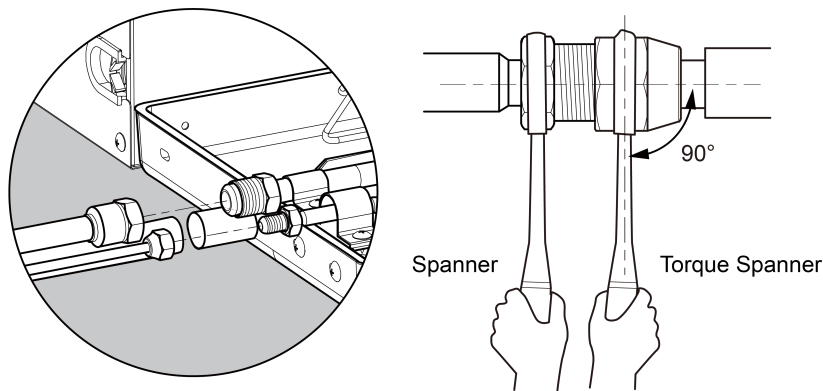

Fig.3.4.1
- (1) Before welding the pipeline sealing cap, please make sure there's no refrigerant in pipeline. If welding it directly, it may cause unnecessary property damage or personal injury.
- (2) Prior to installation, the internal piping must be free of contaminants and protected against dust ingress. Any contamination may compromise the unit's operational integrity.
- (3) Conform to the following principles during pipe connection: Connection pipeline should be as short as possible. The height difference between indoor and outdoor units should be as short as possible. Keep number of bends as little as possible. The radius of curvature should be as large as possible.
- (4) Weld the connection pipes between indoor and outdoor unit. Please strictly conform to the requirements for welding process. Rosin joints and pin holes are not allowable.
- (5) When laying the pipes, be careful not to deform them. The radius of bending parts should be more than 200mm(7-7/8 inch). The pipes can't be repeatedly bent or stretched, otherwise the material will get harden. Do not bend or stretch the pipe over three times at the same position.
- (6) Please use a torque wrench to connect union nut on the indoor unit. See the Fig.3.4.1 as below.